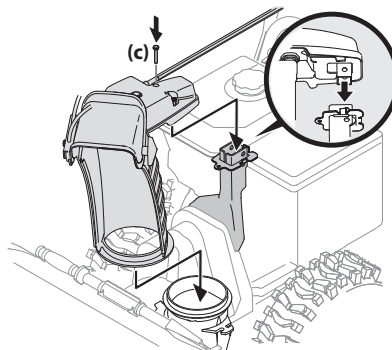

Figure 2-27
3. Place chute onto chute base and ensure chute control rod is positioned under handle panel. Install hex screw (c) removed in Step 1, but do not secure with wing nut at this time. See Figure 2-27.